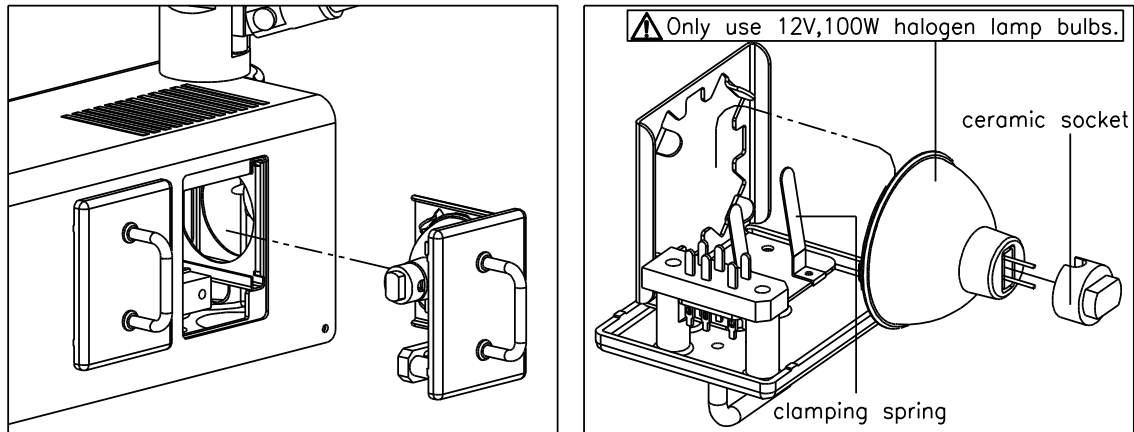

Fig.4
- (2) After the operation, replace the burnt bulb immediately for next operation. While replacing, pull out ceramic socket and take the bulb out of two clamping springs. Then replace a new bulb in a reverse way (Fig. 4).
- (3) Insert the bulb module to the same direction it was removed.